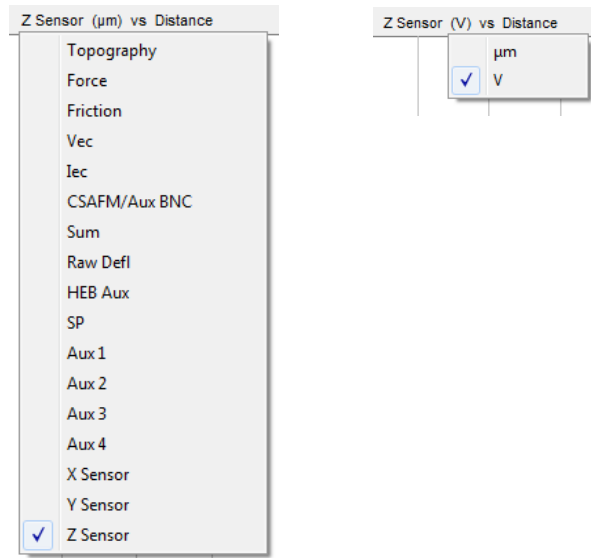

Figure 142 Select Z Sensor and units for Z sensor calibration
- 9 In the Spectroscopy plot window, set the lower buffer to **Z Sensor**: go to the Data Channel for the plot and select from the drop-down menu as shown below in Figure 142 on page 208.